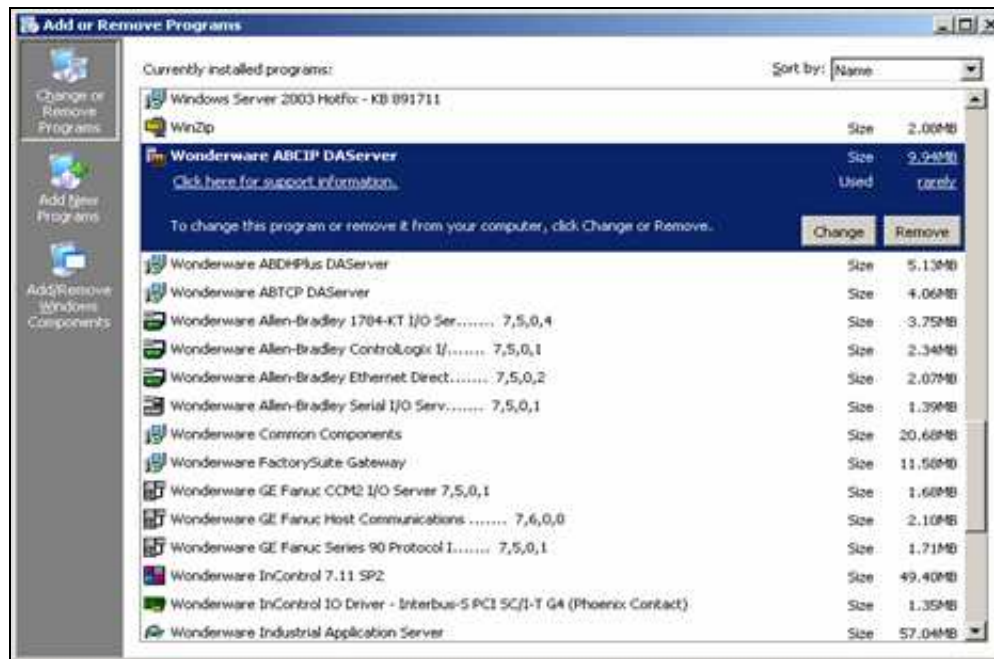

FIGURE 2: CHECK DASERVER VERSION
2. Locate the Wonderware DAServer in question and highlight the list item (Figure 2 below):